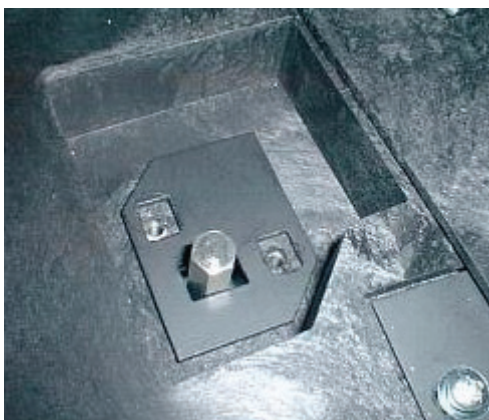

Figure 135 Replacing the shipping clamp plates
7. Replace the shipping clamp plates, by turning them through 180° to align the hole with the shipping clamp screw, as shown in Figure 135.